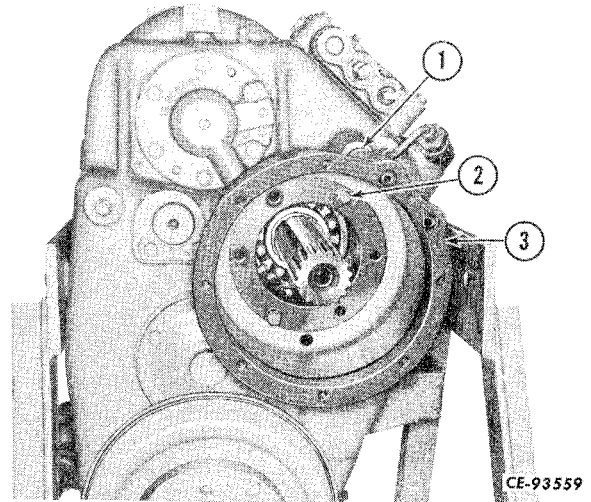

Figure 4-18
Remove the internal cap screws (2, Fig. 4-18) holding the housing (3) to the transmission case. Remove the main pressure and lube pressure "O" rings (1) from the case.